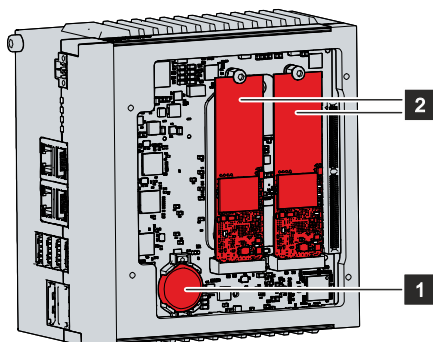

Fig. 20: Battery and storage media
⇒ The battery is now in an oblique position (see fig. 20).
5. Push the high side of the battery down into the battery holder (see fig. 20).